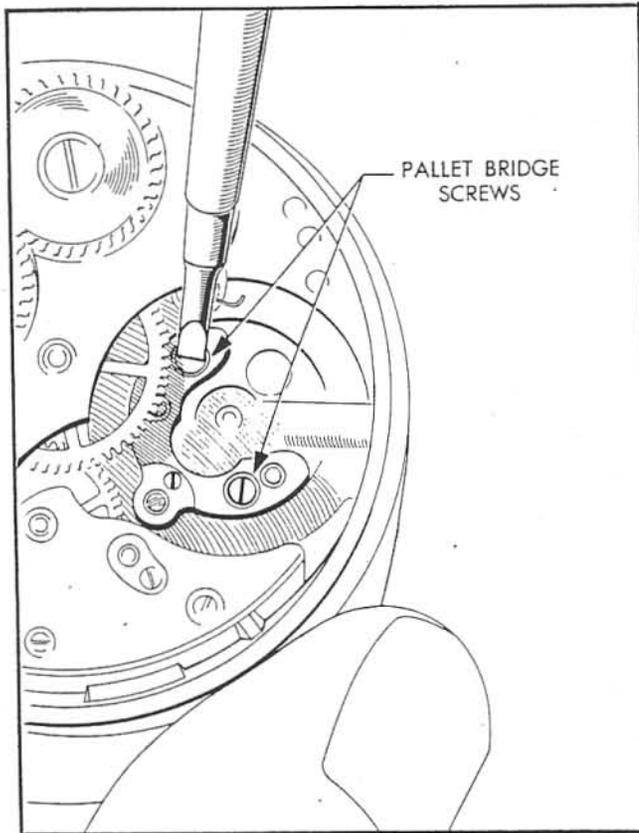

Figure 17—Pallet Bridge
(6) **PALLET BRIDGE AND PALLET.**—Remove the two screws holding the pallet bridge, as shown in figure 17, and lift out the bridge and then, the pallet. Removal of one screw allows the pallet upper endstone cap to be taken off the bridge.